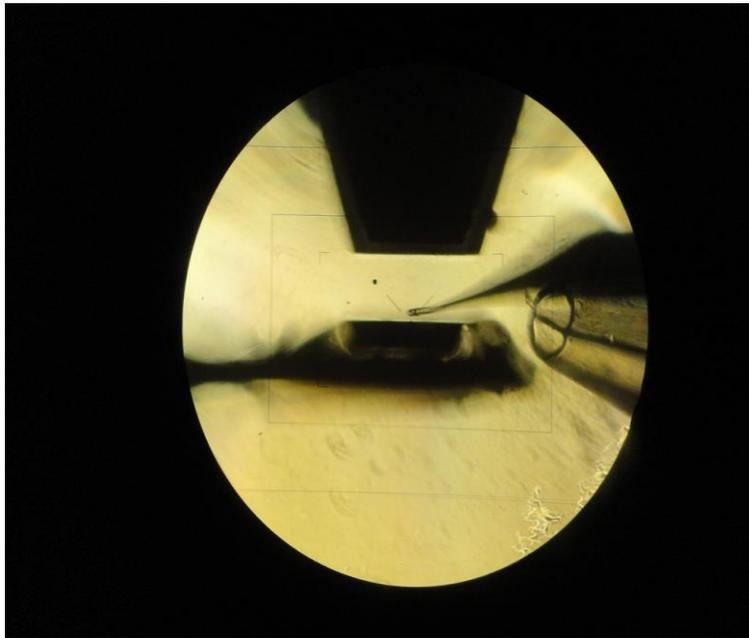

Figure 17 Image showing Location of Double Barrel Pipette, Periscope, Needle and Cantilever
3. Using the knobs on the perfusion tube translation stages, move the tube into the solution and close to the micro-tools. Make sure not to touch the needle or the cantilever. Place it on the right or left side of the setup touching the coverslip as shown in Figure 17.